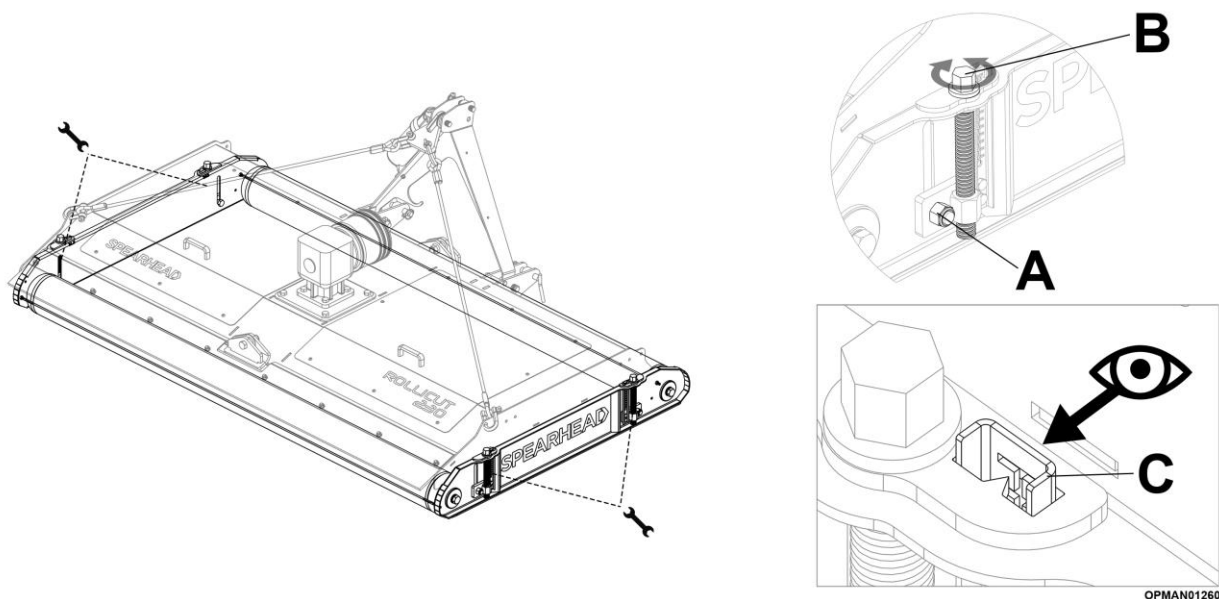
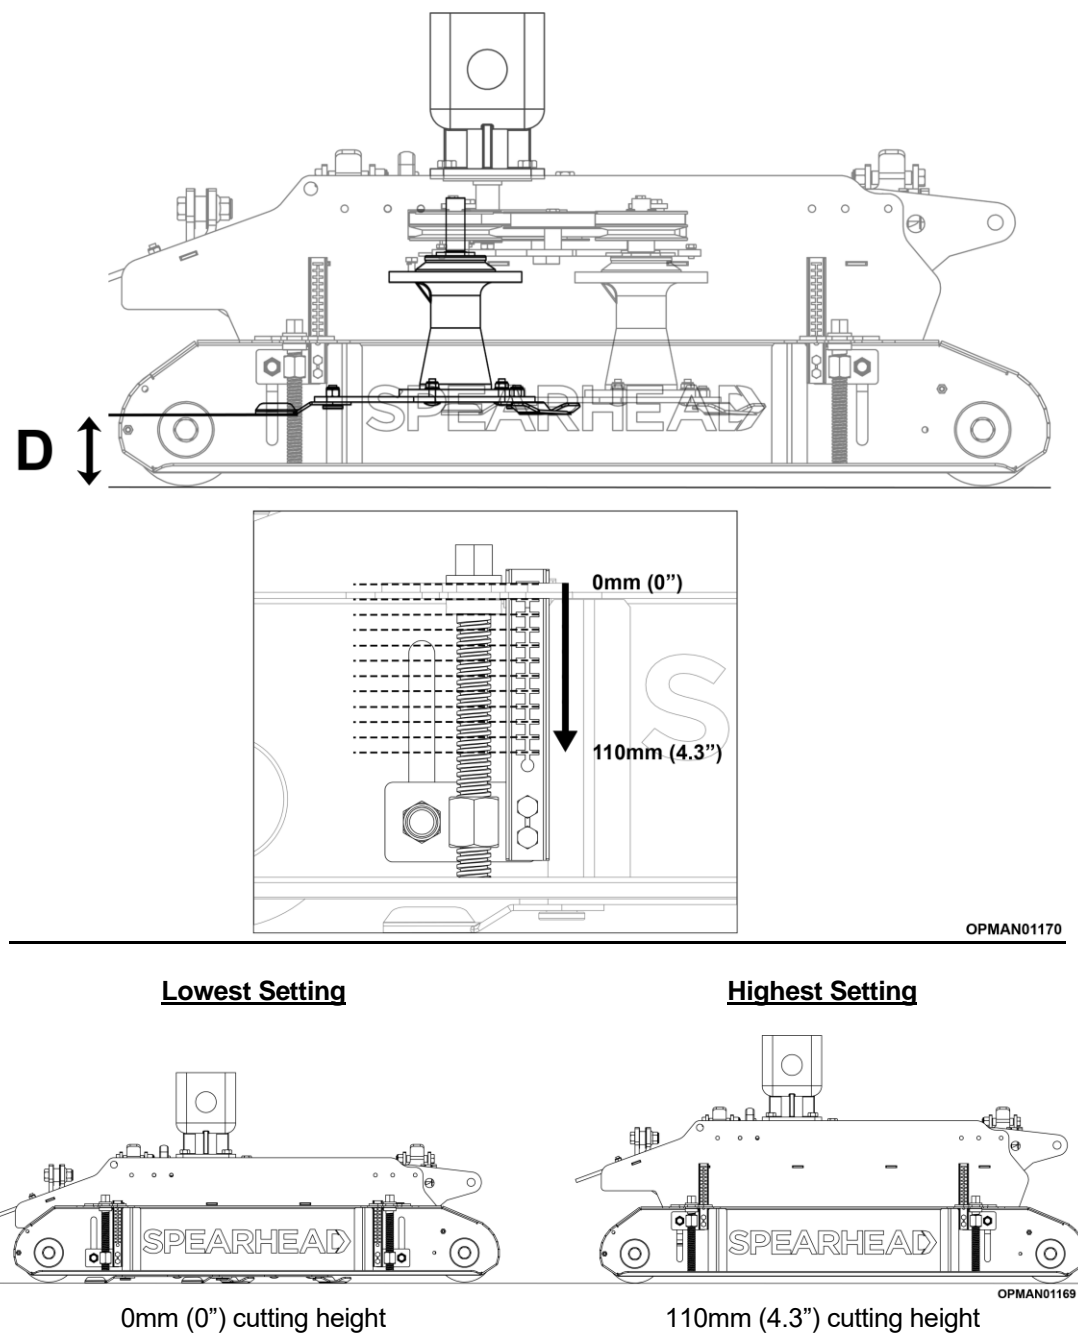

Figure 4.10 – Rollicut Roller Adjustment
Figure 4.11 – Rollicut Roller Cutting Height Adjustment
With reference to Figure 4.10, to alter the minimum height of cut:
- 4.5.1.1 Loosen the four nuts found on each end of the skids; see Figure 4.10 (A).
- 4.5.1.2 Turn each of the four height adjustment bolts equally to raise or lower the machine skids and rollers to alter the cutting height of the machine; see Figure 4.10 (B).
- 4.5.1.3 Use the mark on the height gauge to as a guide to the achieved cutting height setting; see Figure 4.10 (C).
4.5.1.4 Retighten the four nuts found on each end of the skids; see Figure 4.10 (A) to secure the skids from adjusting their position.
Mark "C" – see Figure 4.10	Cutting Height "D" – see Figure 4.11